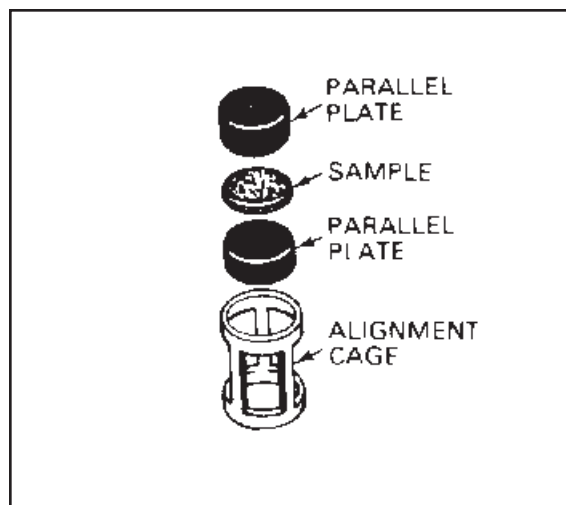

Figure 4.14
8. Place the sample between two parallel plates in the alignment cage as shown in Figure 4.14.
11. Place the sample between two parallel plates in the alignment cage as shown in Figure 4.14 on page 4-37.
3. Place the sample between two parallel plates in the alignment cage as shown in Figure 4.14 on page 4-37.